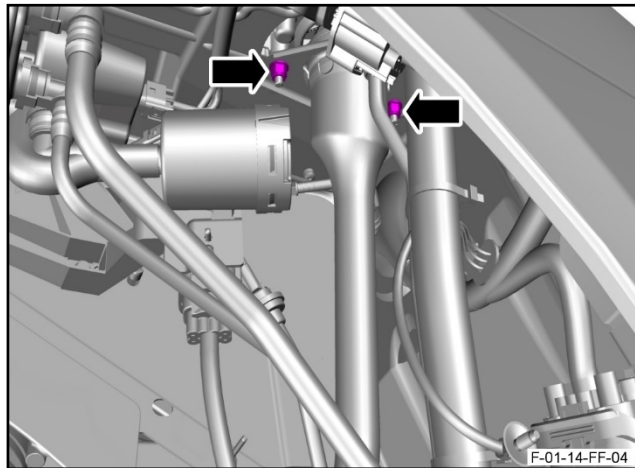

Figure 4
10. Remove the two nuts that attach the fuel filler neck to the body (refer to Figure 4).